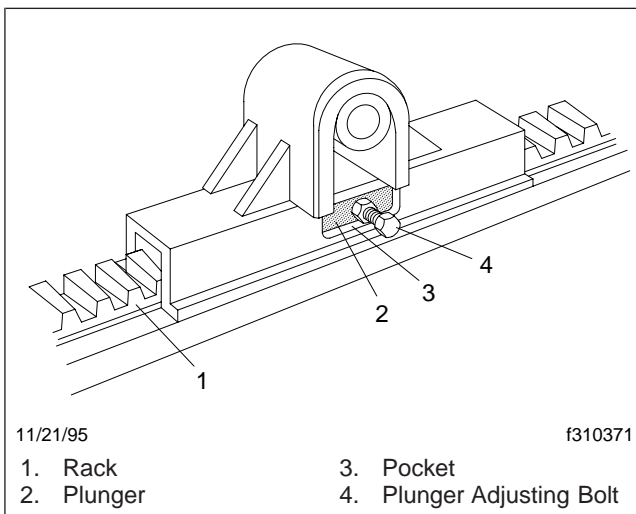

Fig. 9, Locking Plungers
1. Loosen the locking plunger jam nut and turn the adjusting bolt out (counterclockwise). See **Fig. 9**.